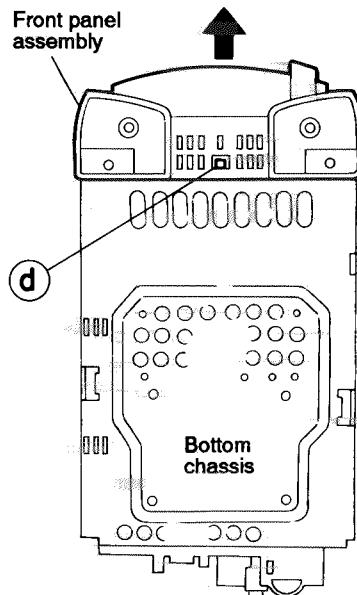

Fig. 5-12
### ■ Removing the front panel assembly (See Fig. 5-12)
5. From the bottom of the body, disengage the engagement ④ fixing the front panel assembly in Fig. 5-12 while pressing it with a minus screw driver, etc.